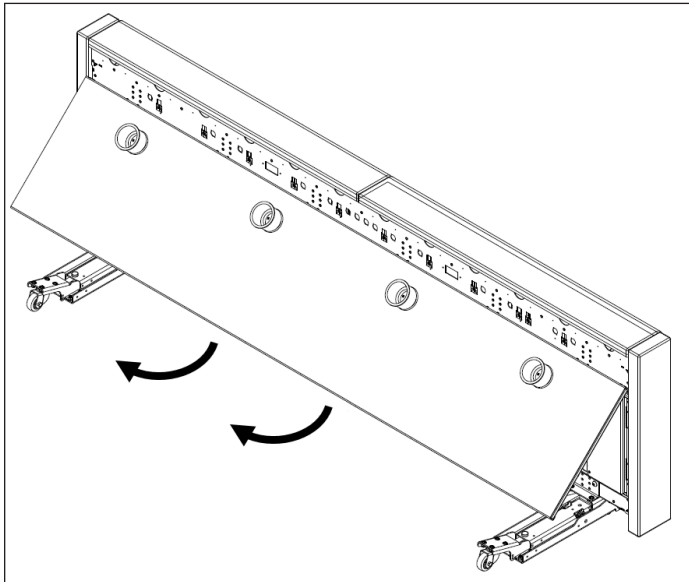

Figure 23: Lift up Tabletop
8. Grab the bottom edge of the tabletop with both hands spread slightly wider than shoulder width apart and lift the tabletop. Refer to **Figure 23**.